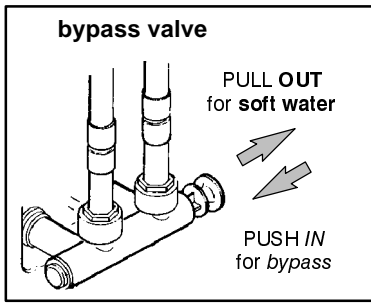

Figure 1
1. Push the bypass valve stem in for bypass. **Figure 1.**
24. Pull the bypass valve stem out for soft water. Slowly turn the house main water line back on, pausing several times allowing water line and the softener to slowly fill with water. Turn off nearby faucet when all air is expelled. **Figure 1.**